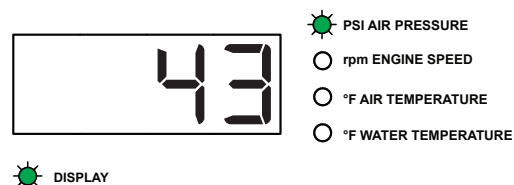

Figure 23. Warm-up Mode
7. During warm-up (Figure 23) the compressor air pressure will be displayed on the 7-segment display and the display LED will be lit (**GREEN**).